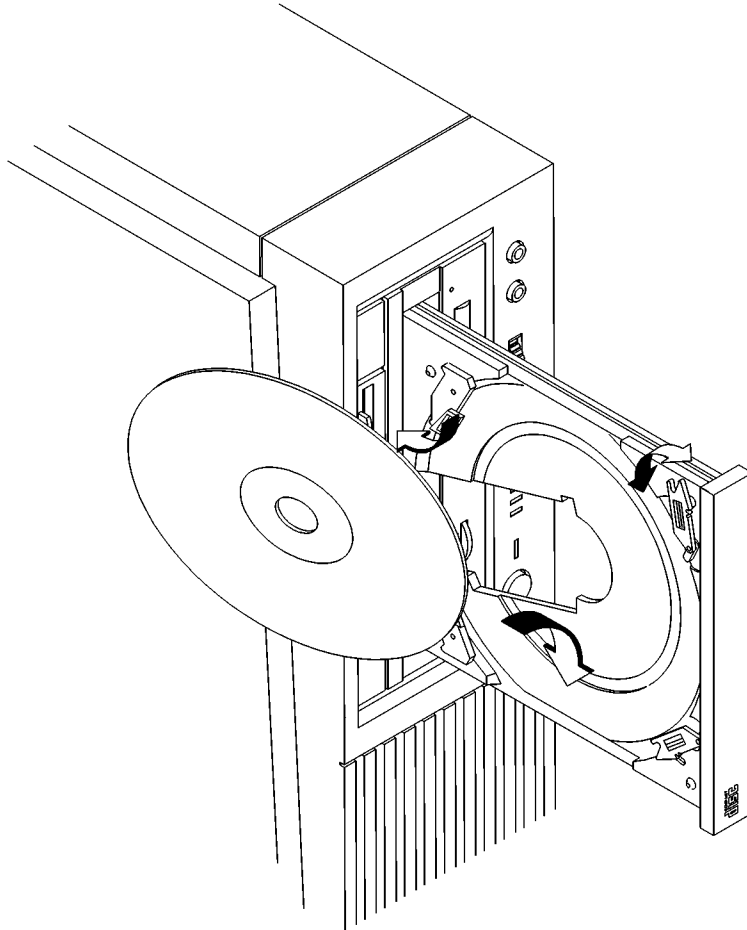

Figure 13
- 2 Hold the disc with the label side away from the tray and place the edge of the disc onto disc holders A and B as shown in Figure 13.